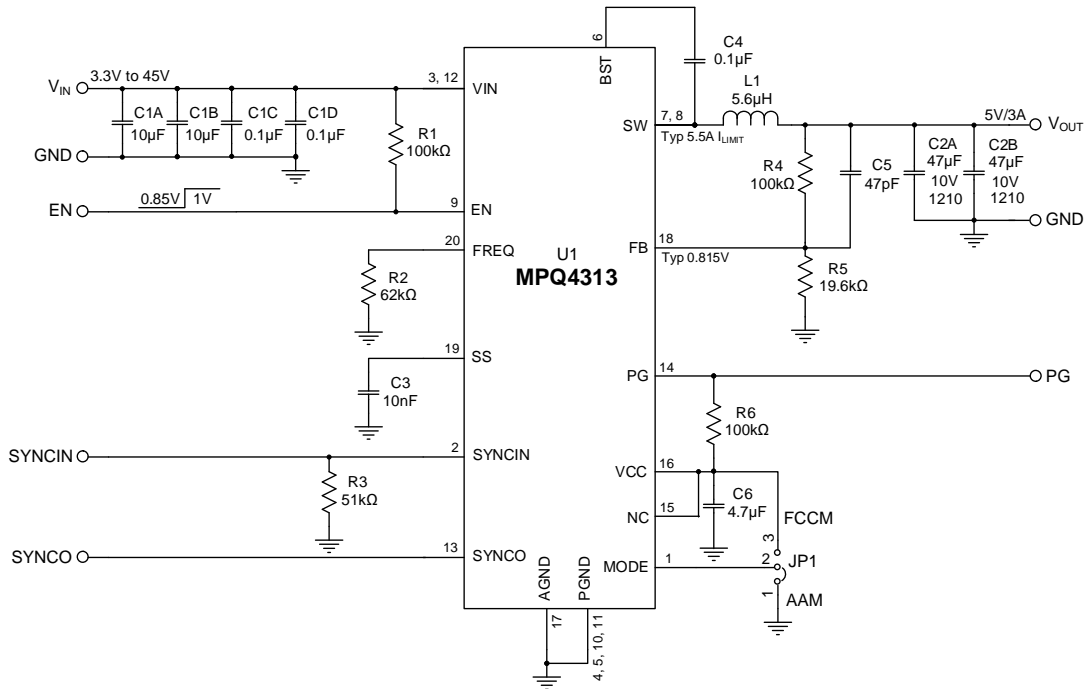

Figure 12: Typical Application Circuit ($V_{OUT} = 5V$, $f_{sw} = 470kHz$)
10) The recommended PCB layout is based on Figure 12.